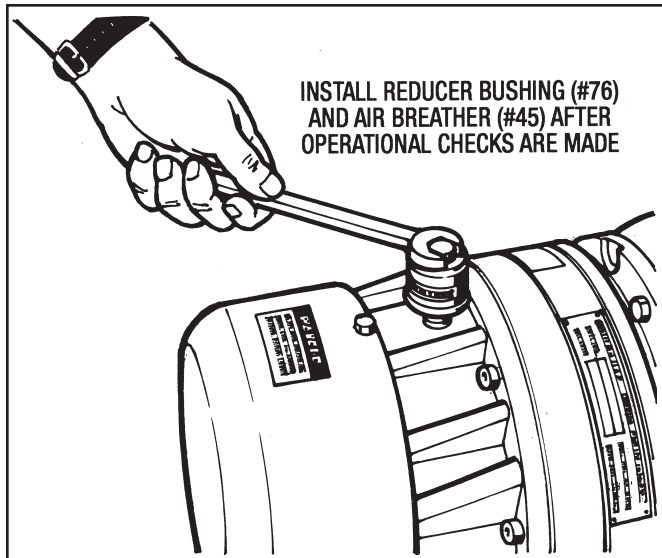

Figure 3.7 - Installing Air Breather (#45)
15. Install Reducer Bushing (#76) and Air Breather (#45) into the top of the brake. (See Figure 3.7 below.)